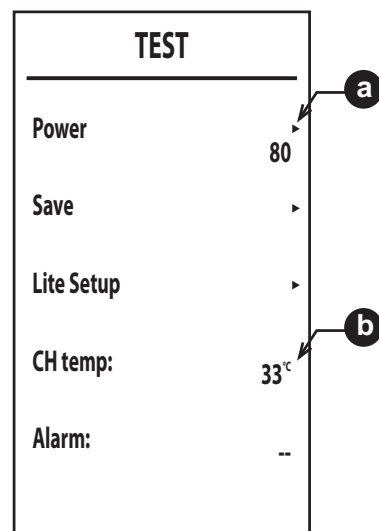

fig. 39
- Press the heating buttons to scroll the first 3 items (Power, Save, Lite Setup - fig. 39) press the button to confirm the choice.